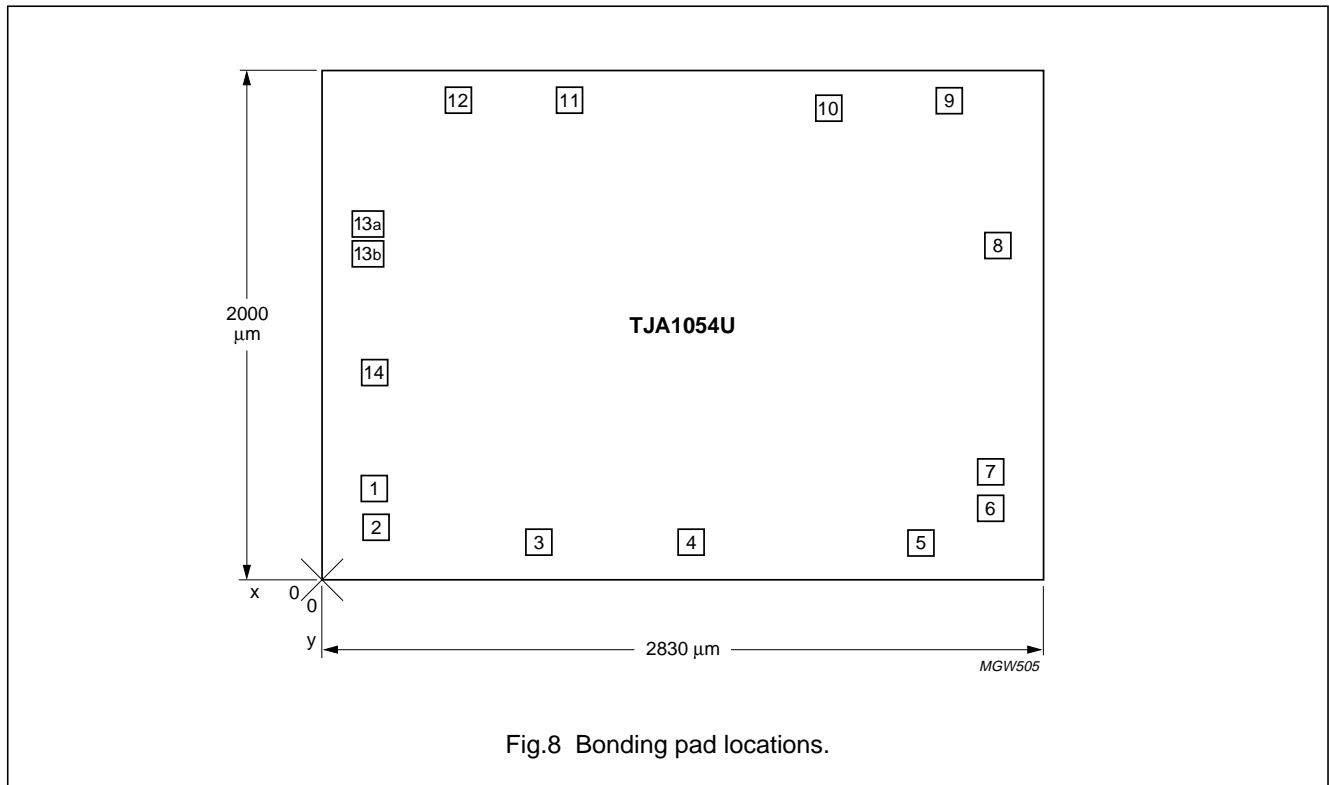

Fig.8 Bonding pad locations.
1. All coordinates (μm) represent the position of the centre of each pad with respect to the bottom left-hand corner of the die (see Fig.8).